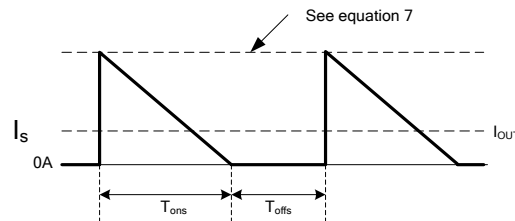

Figure 4. Secondary Current Waveform
The AP3988 is designed to work in constant current (CC) mode. Figure 4 shows the secondary current waveforms.